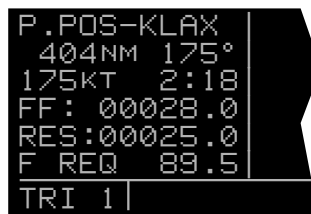

Figure 5-6
2. Rotate the left inner knob to display the TRI 1 page on the left side (figure 5-6).